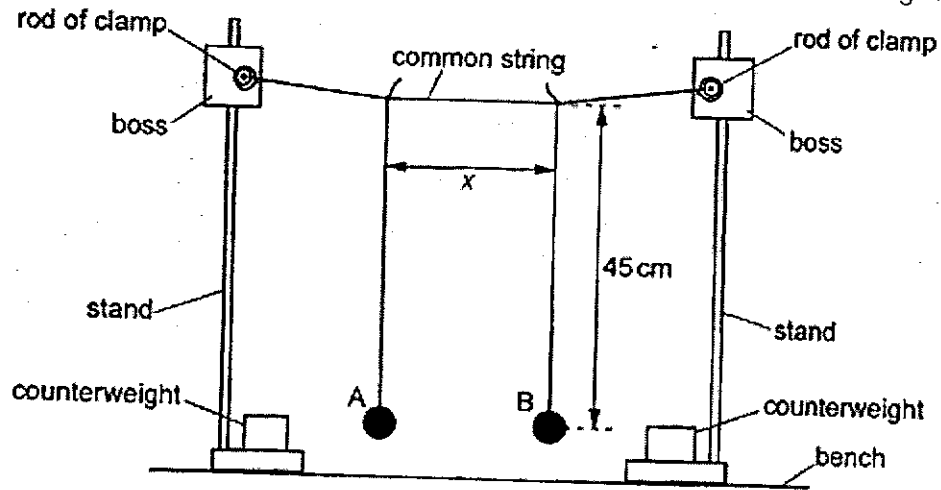

Fig. 3.2
- (a) (i) Set up two pendulums A and B, as shown in Fig. 3.2. Place the loops of the common string on the rods of the clamps. The distance  $x$  between the pendulum strings is shown.
- (c) (i) For the arrangement shown in Fig. 3.2, adjust the positions of the pendulums to make  $x$  equal to the value chosen in (b)(iii).